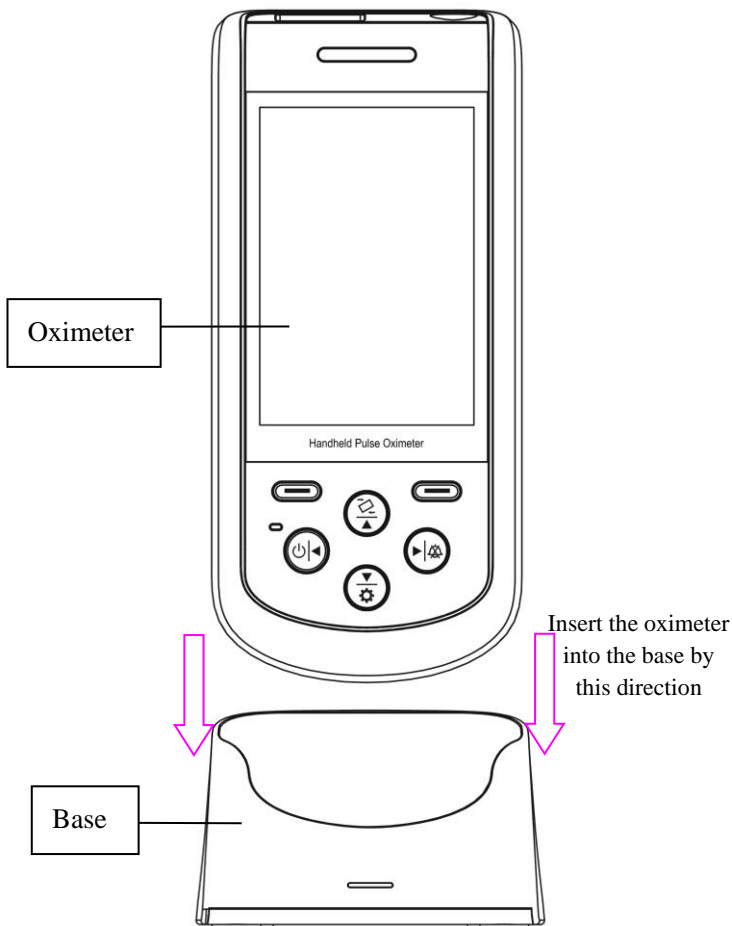

Figure 2.2 Connection between oximeter and base
4) Put the device into the base properly, and pay attention to the polarity markings, as shown in figure 2.2.